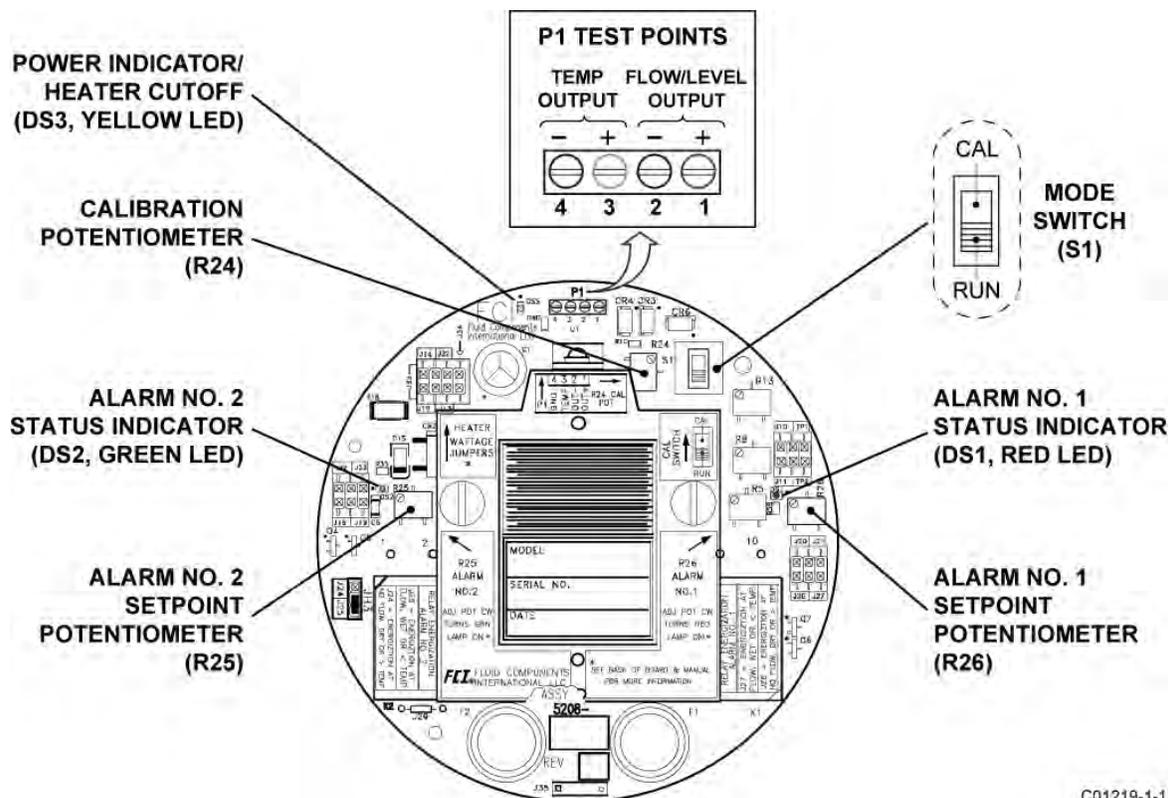

Figure 16 – Control Circuit Component Locations
To easily monitor output voltages locally while the instrument is powered, the control circuit has test points available at P1. These test points can be probed with pointed test leads or hooked on to with test clips (Pomona Mini Grabbers or Easy Hooks). See Figure 16 (Operation).
The control circuit has two mutually exclusive alarms identified as Alarm No. 1 and Alarm No. 2. Each has an alarm setpoint adjustment potentiometer and LED indicator. Both alarms can be set up for one of three applications; flow, level/interface, or temperature. The following application specific adjustment procedures are generic and can be used for setting either or both alarms. Use Figure 16 to help locate the important setup components (potentiometers, LEDs, etc.)
**Note:** The output signal at the P1 test points will vary inversely with changes in the process flow rate. The output signal level is relative to the type of process media being measured and the heater wattage setting. See Figures 16 and 17.